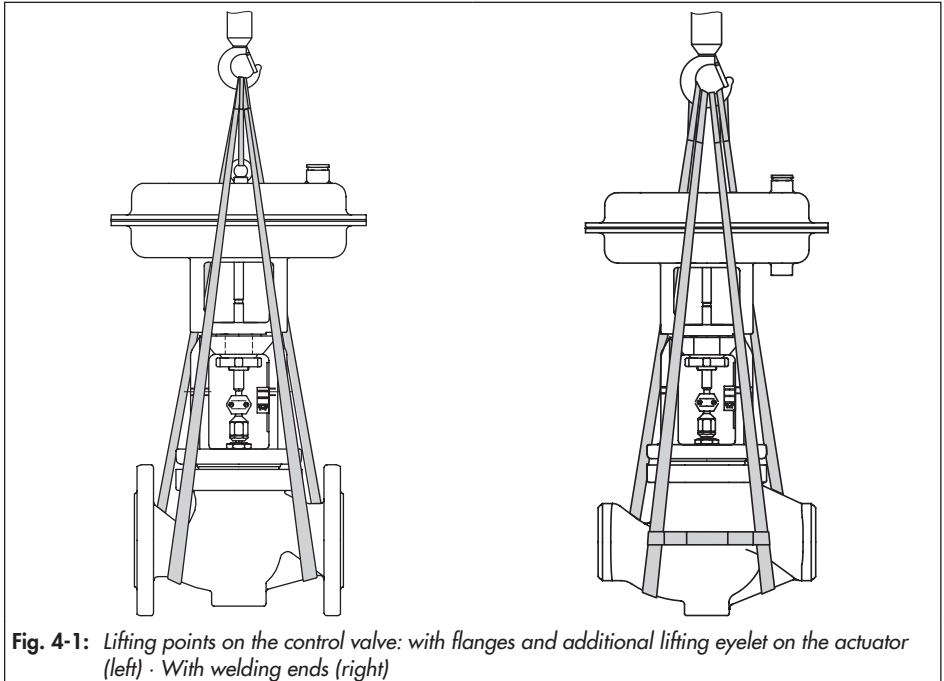

Fig. 4-1: Lifting points on the control valve: with flanges and additional lifting eyelet on the actuator (left) · With welding ends (right)
- Use a hook with safety latch (see Fig. 4-1) to secure the slings from slipping off the hook during lifting and transporting.
1. Attach one sling to each flange of the body and to the rigging equipment (e.g. hook) of the crane or forklift (see Fig. 4-1).
1. Attach one sling to each welding end of the body and to the rigging equipment (e.g. hook) of the crane or forklift (see Fig. 4-1).